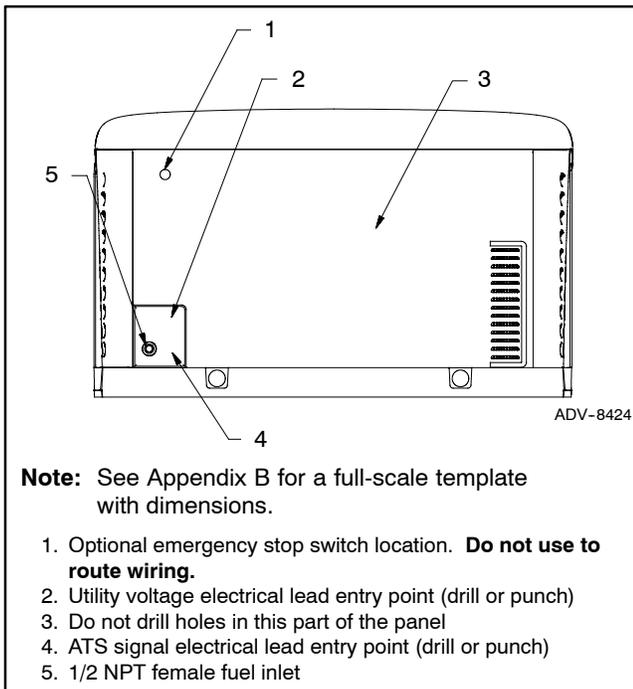

Figure 1-16 Electrical Lead Entry Locations
Drill or punch holes in the enclosure for the electrical conduit in the locations shown in Figure 1-16. A full-scale dimensioned template for the hole locations is printed in Appendix B. See page 69.
1. Drill holes for the conduit fittings. See Figure 1-16 and Appendix B for the recommended electrical inlet locations. Feed the cables through the openings.